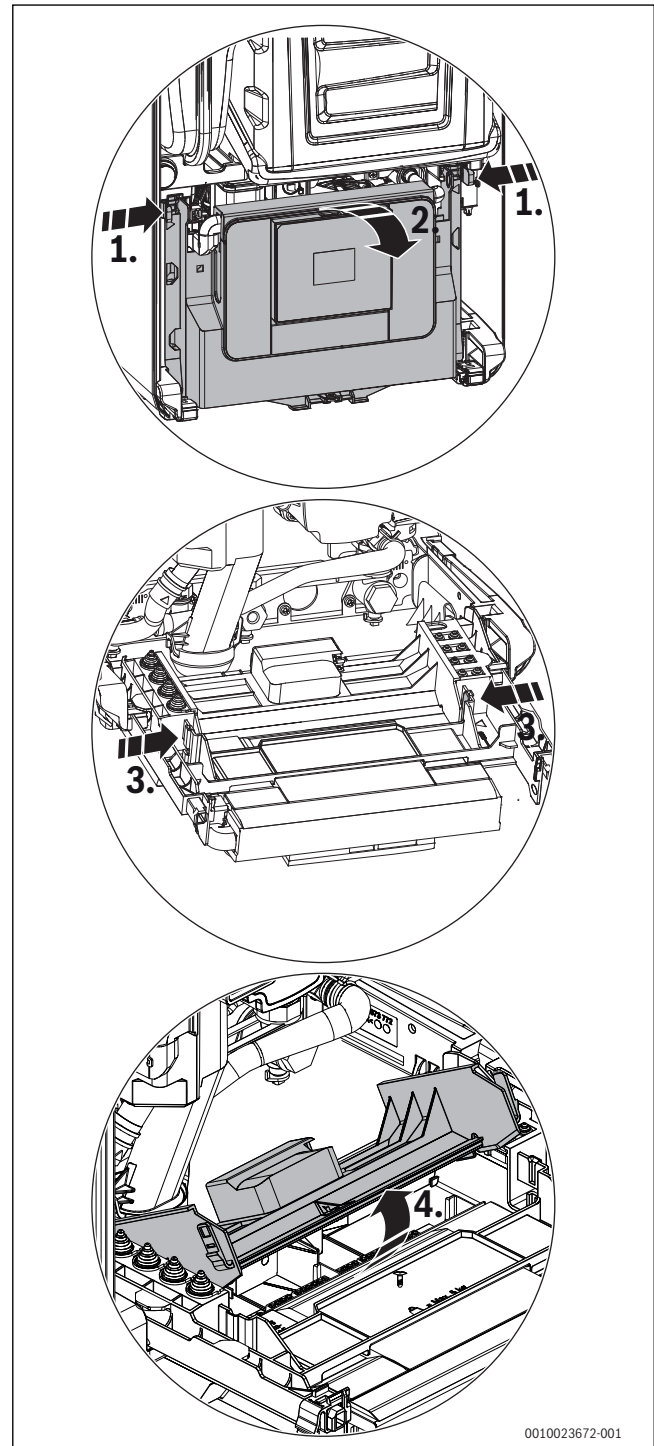

Fig. 54 Opening the cover
- ▶ Flip down the control appliance (→ Fig. 54).